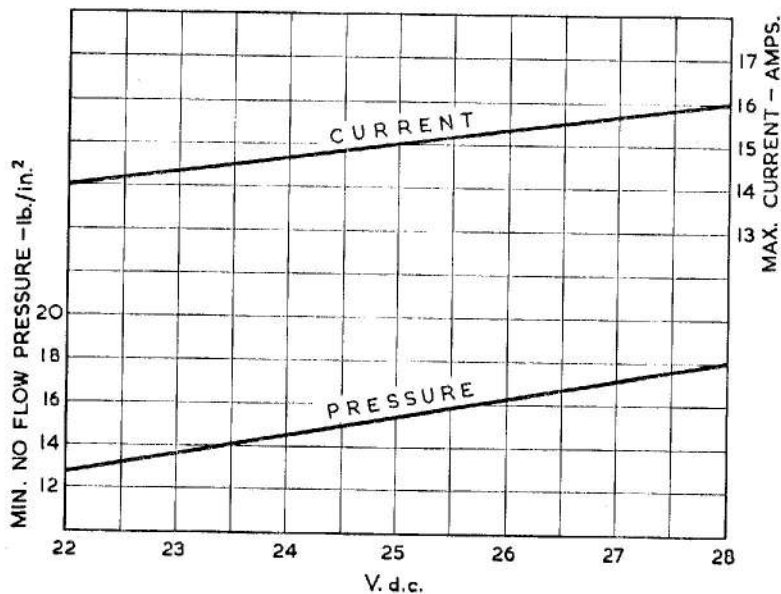

Fig. 5. Estimated current consumption and delivery pressure under no-flow conditions
19. After installation, and at periods stated in the appropriate Servicing Schedule the pump should be checked for pressure of fuel delivery. The minimum no-flow pressure at varying input voltages is given in fig. 5. The procedure for the test is as follows:—
(6) Restore the electrical supply, switch on the pump under test and check that the pressure is in accordance with the figures quoted in fig. 5.
(7) Switch off the pump, remove the gauge and adapter and quickly replace the drain plug and sealing washer.
gether with the associated voltage inputs are given in fig. 5. When the test is completed, switch the pump off, disconnect the ammeter, replace the circuit breaker terminal cover and reset the circuit breaker.